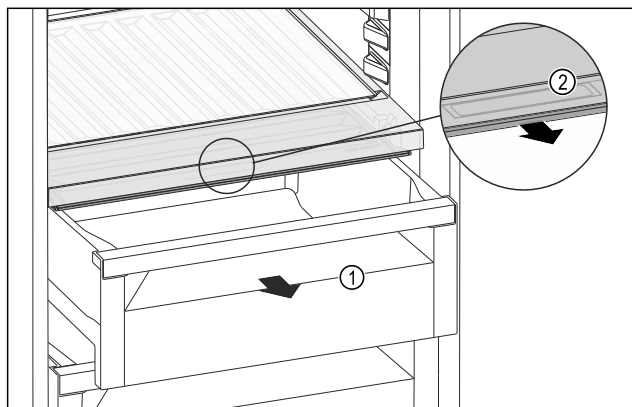

Fig. 88
- Pull out the drawer Fig. 88 (1).
- Grasp the recessed grip Fig. 88 (2) on the compartment lid and pull the compartment lid forwards at the same time.